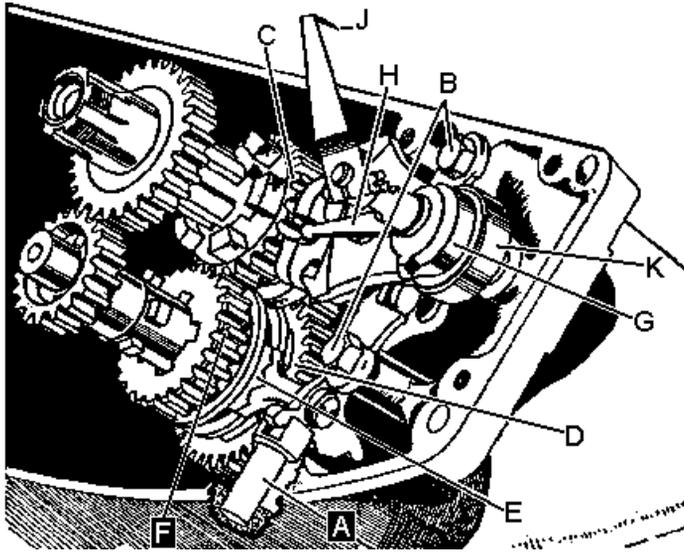

Fig. D16. *The Gear Cluster.*
Replace the spring-loaded ball socket (A) Fig. D16 in its recess in the bottom of the offside crankcase.
Now fit the gear quadrant selector mechanism to the offside crankcase. Engage the quadrant with the spring-loaded locating plunger in the bottom of the case, (A) Fig. D16, the quadrant to be at its innermost position in relation to the plunger; this is bottom gear. Secure in position by fitting the two bolts (B) with their tab locking washers, turning over the tabs to lock the bolts.
Insert the layshaft through the lower gears and engage the gear train (see Fig. D16).